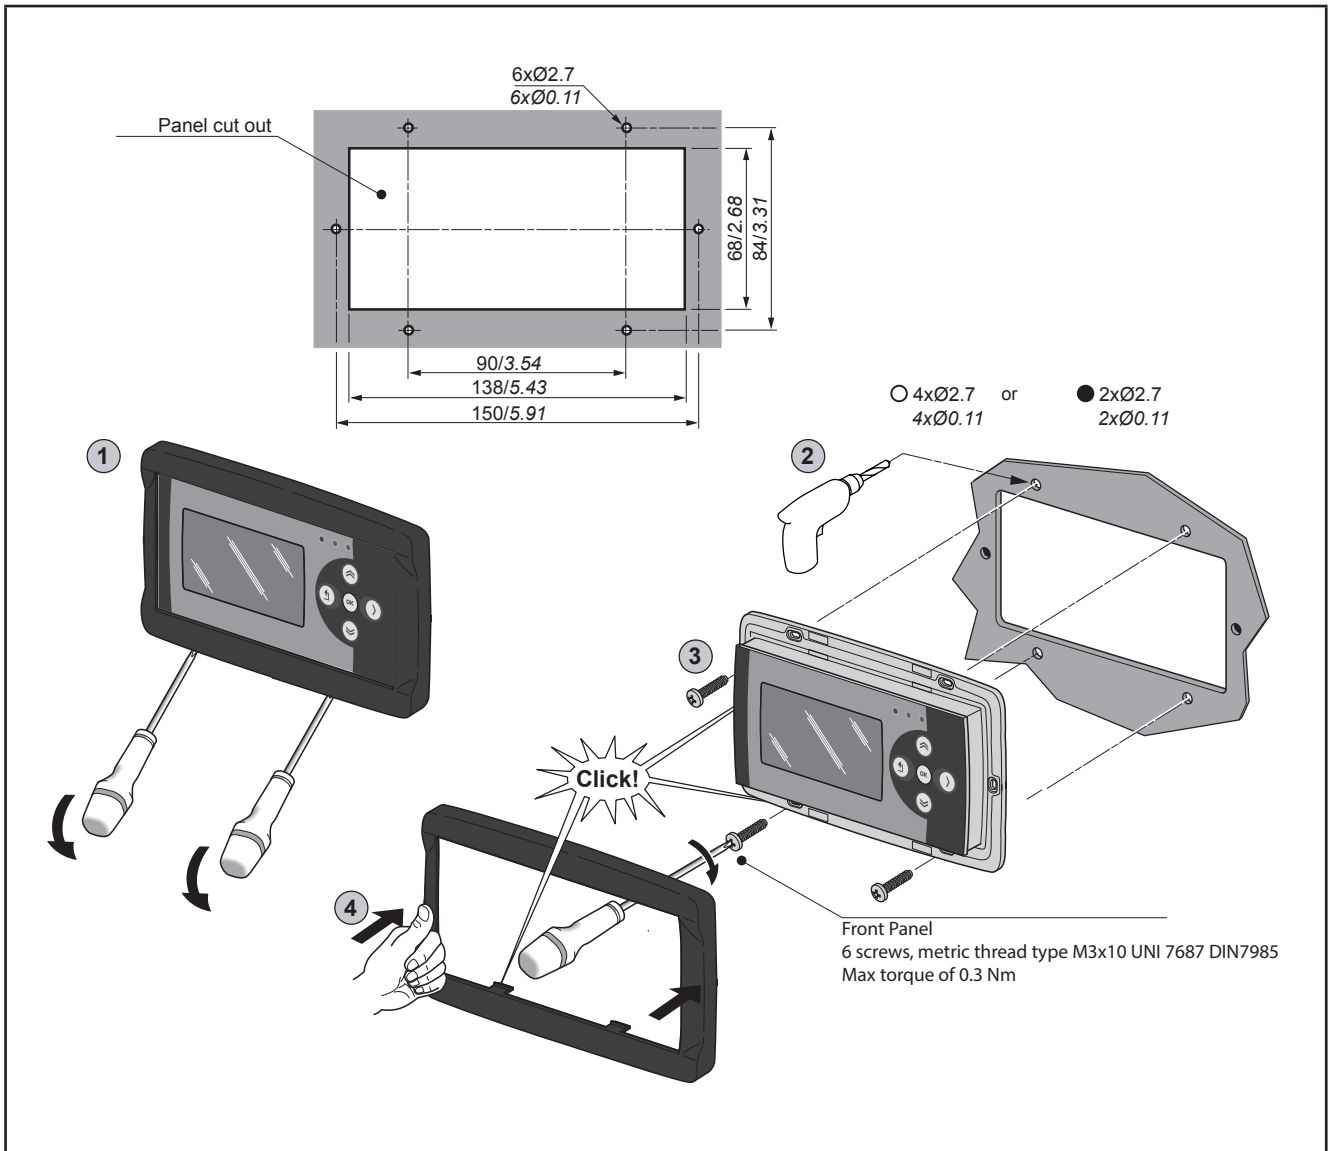
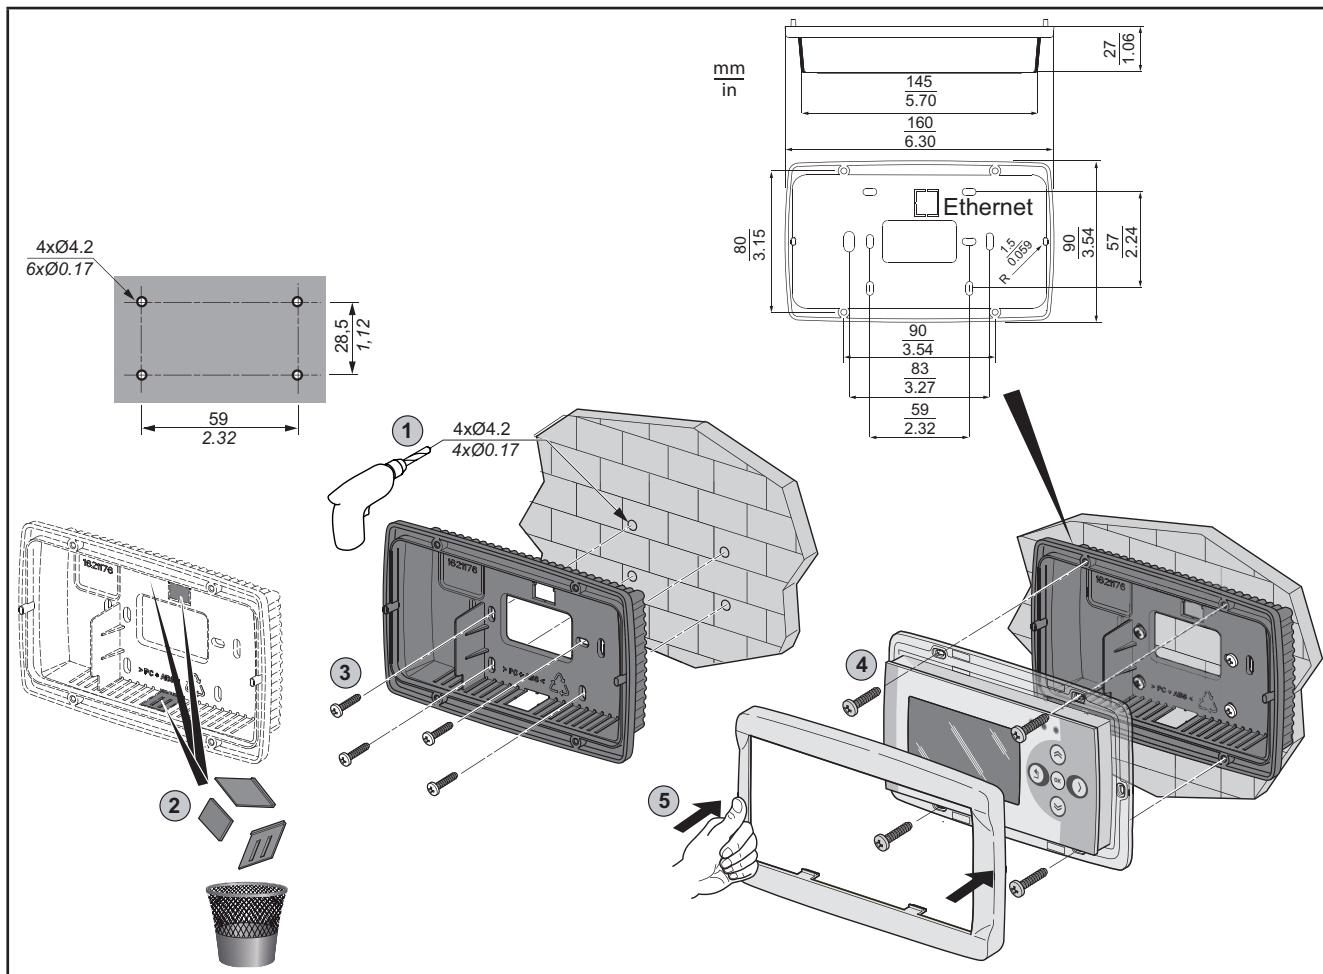

Fig. 16. Assembly of the EVK PRO DISPLAY
Fig. 17. Accessories for wall mounting
The instrument is designed for panel mounting (refer to Fig. 16 on page 31) or wall mounting (refer to Fig. 17 on page 32) using the special accessories, which must be ordered separately.
2. Make 2 or 4 holes diameter 2.7 mm (0.11 in) spaced as shown (refer to Fig. 16 on page 31).
The instrument is also designed for wall mounting (refer to Fig. 17 on page 32) using the special accessories, which must be ordered separately.